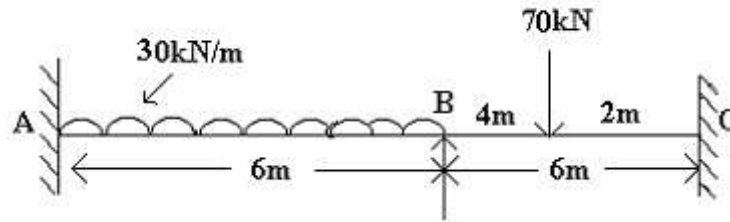

Figure 2:
6. During loading the middle support B of the continuous beam ABC, sinks by 10mm. The ends A and C as fixed as shown in Figure 2 Find the moments at A,B, C using moment distribution method. Sketch the B.M. and S.F. diagram ($E = 200 \text{ GN/m}^2$ and $I = 80 \times 10^{-6} \text{ m}^4$). [16]